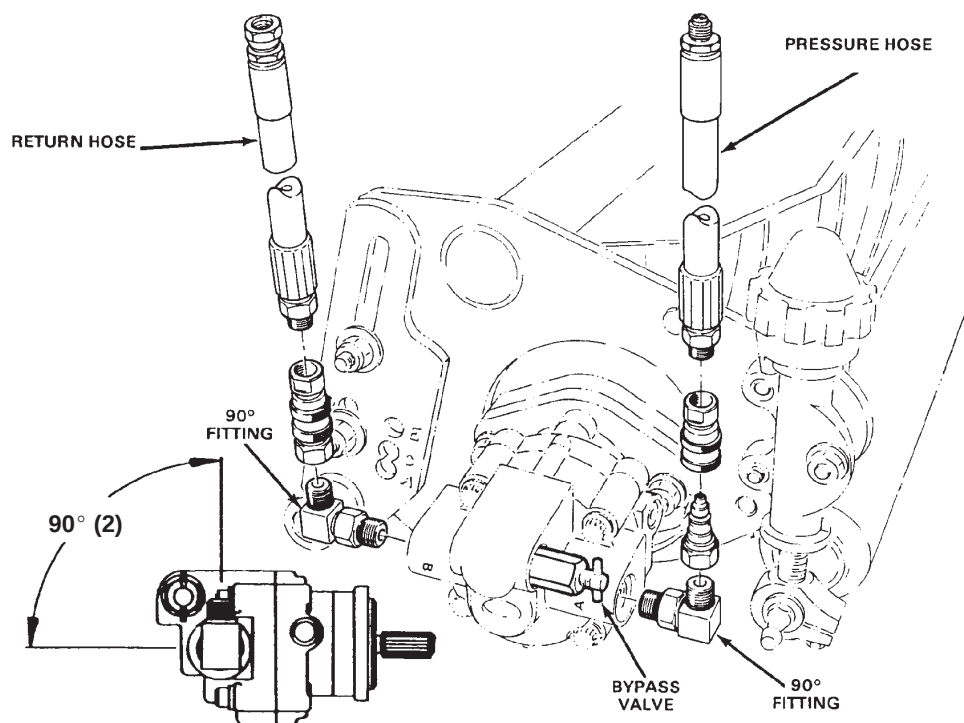

Figure 2
4. Identify the correct fitting locations and position for the right cutting unit by referring to Figure 2.